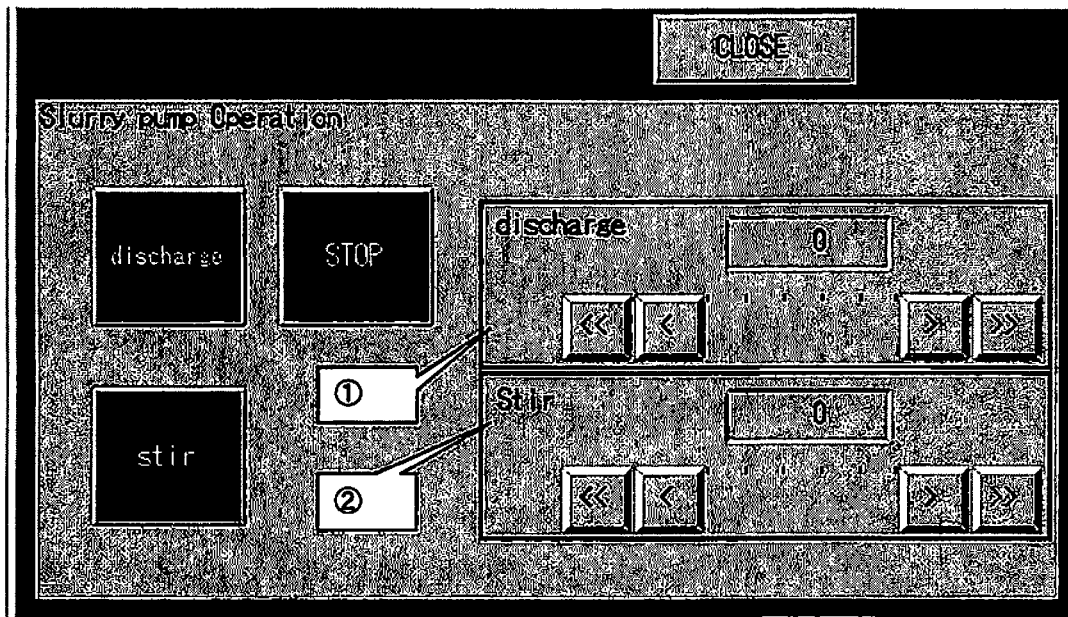

Fig. 14-4-1-3. Slurry Pump Operation Pop Up Window
- If pressing “MODE” in the main display, the window of Fig 14-4-1-3 pops up and the amount of discharge and stir of the slurry pump can be changed.